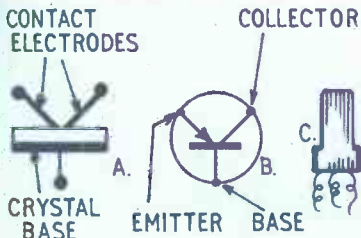

Fig. 1—The transistor
shown at (A) in Fig. 1. If a suitable circuit is being followed, the constructor need not concern himself with the kind of transistor, though such information may be wanted in experimental testing.
(B) in Fig. 1 shows the usual transistor symbol, the emitter resembling an arrow. The signal to be amplified may be applied to either base or emitter. The amplified signal then appears in the collector circuit.